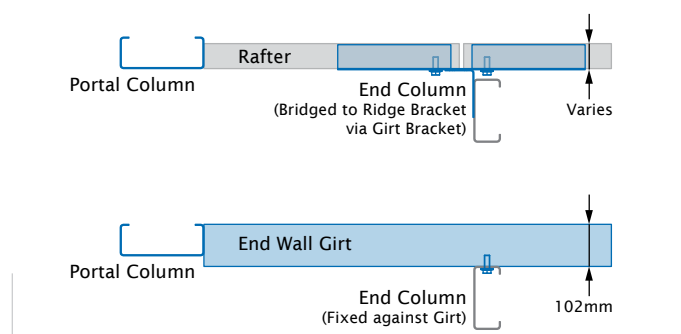

Figure 20
**Note:** Make sure the end column is directly against the end girts (Figure 20).
Homesheds with end portal column of C200 or C250 will have a gap (Figure 20) between the rafters and the flange of the end column.